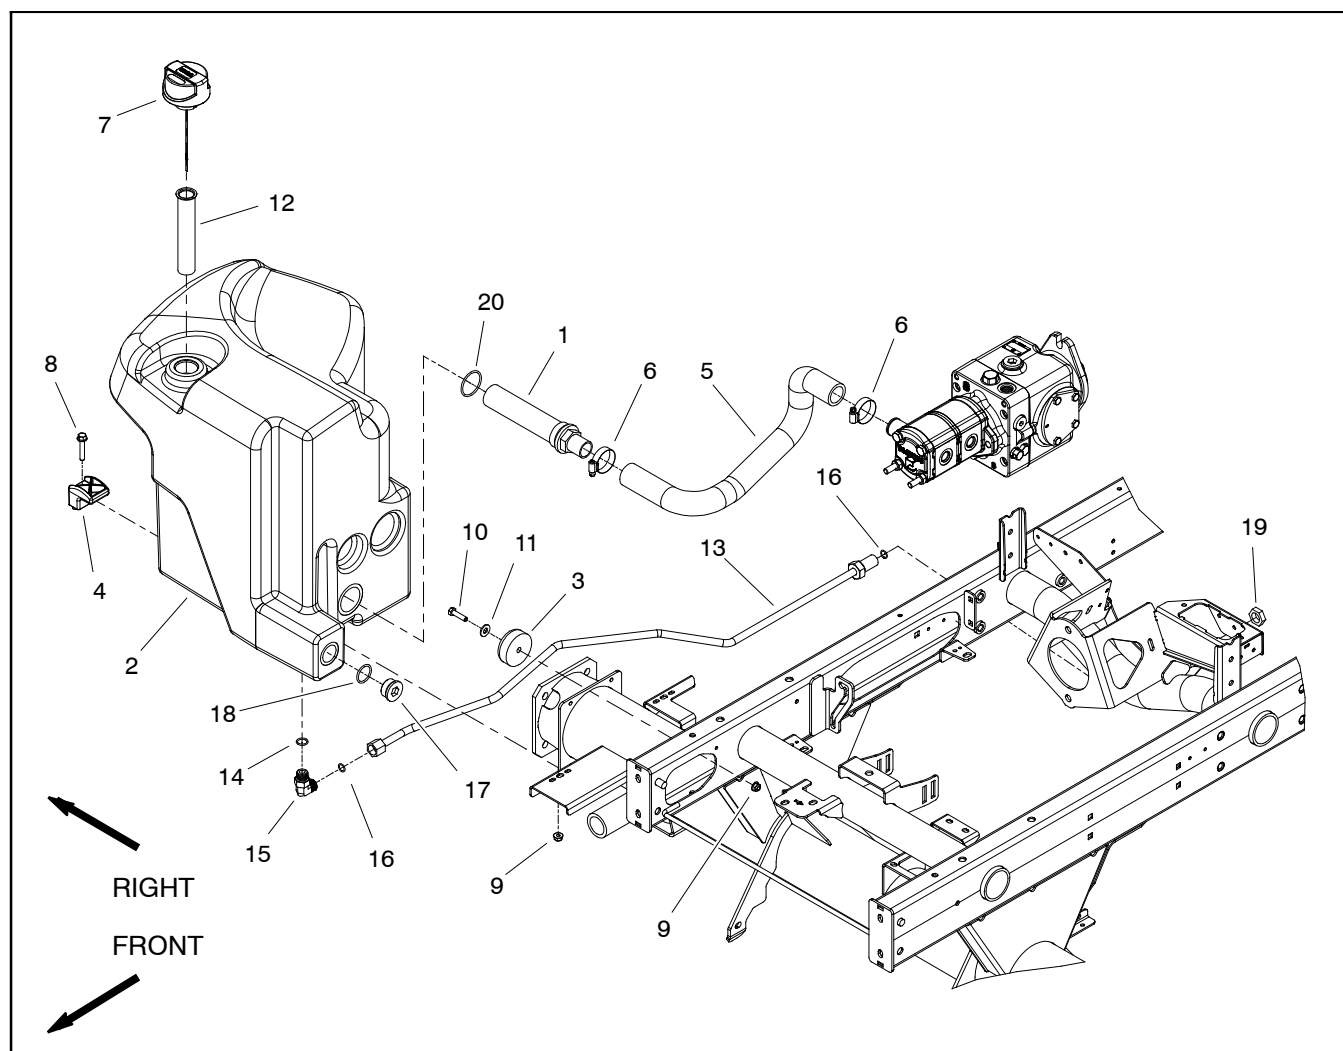

Figure 52
Removal (Fig. 52)
4. Remove hydraulic reservoir using Figure 52 as a guide.
5. Remove suction strainer (item 1) from reservoir. Discard O- ring.
6. If hydraulic fitting (item 15) is to be removed from reservoir, mark fitting orientation to allow correct assembly. Remove fitting from reservoir and discard O- ring.
Inspection (Fig. 52)
Installation (Fig. 52)